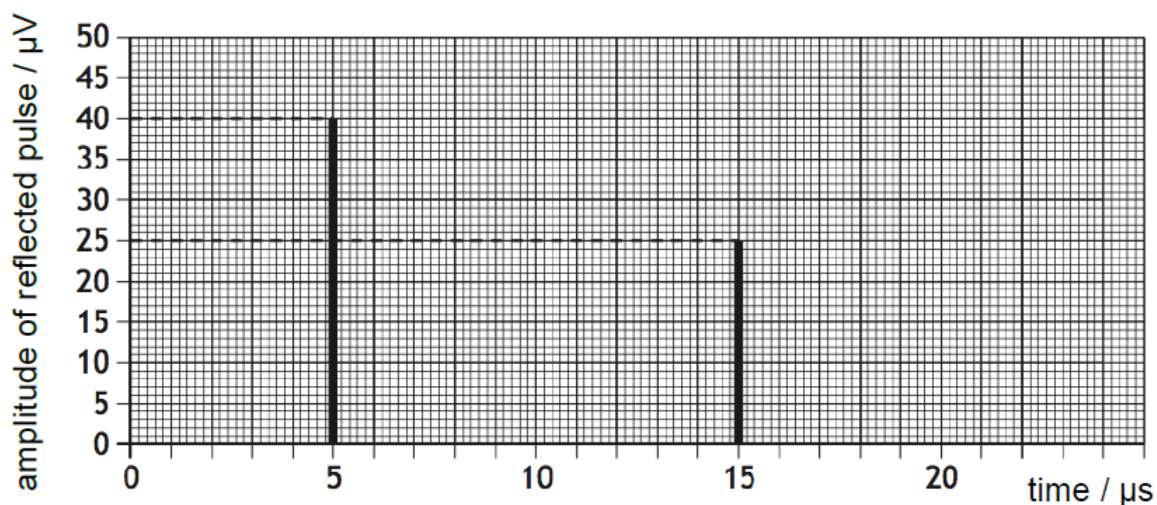

Fig. 6.2
- (b) Fig. 6.2 shows the time between the pulses being transmitted and received. The pulse being transmitted at $t = 0$ s is **not** drawn on Fig. 6.2. The pulse being received when at position X and at position Y are both drawn on the same graph on Fig. 6.2.
- (c) On Fig. 6.2, draw a line to show the reflected pulse at position Z. [1]